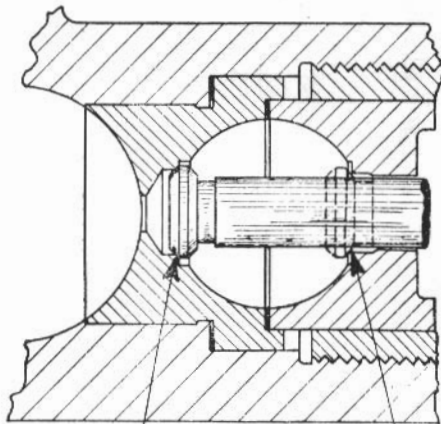

Fig 3
22. NOTE. When Changeover Valve is screwed in it beds against seating at A Fig. 3; when screwed out, against seating at B. These seatings should be kept free from carbon. This can be done by turning valve hand wheel backwards and forwards once or twice before leaving in final position, tight up.